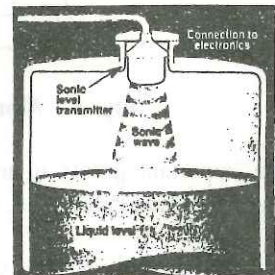

Fig. 4 Ultrasonic level gauge on a tank
- ii) As many of these devices do not need physical contact with the product (see Fig.4), the measurement is completely independent of the physical properties of the product.